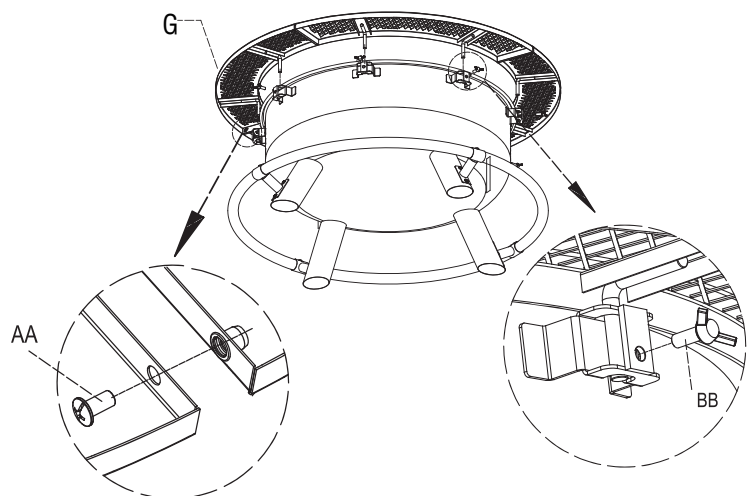

Fig.4
Insert the 4pcs Side Table Panel(G) onto the fixed brackets on the fire bowl. Insert the M6x15 wing nut(bb) to lock it in place. Then connect the adjacent side table panels with M6x15 screw(aa), see Fig 4 .